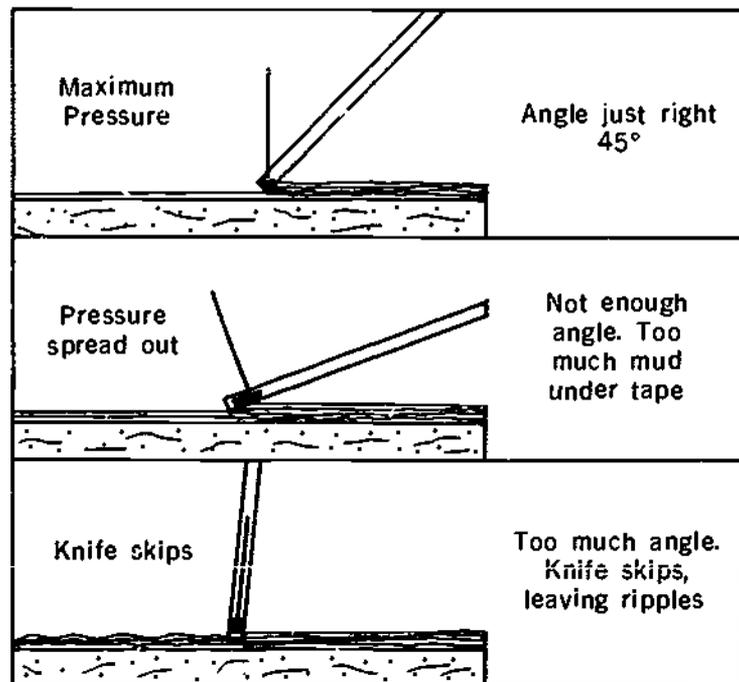

Figure 4-26
3. The amount of pressure applied to the knife and the angle of the knife to the wallboard regulate the amount of pressure applied by the knife and thus the amount of filler removed. The angle of the knife will vary with its flexibility, but generally it should be close to 45° (Figure 4-26). The closer the angle is to 90° the more filler is removed from under the tape and the more chance there is of the tape dragging along the joint. The angle of the knife also regulates how much filler is left covering the top of the tape. As a knife is pulled along a tape: